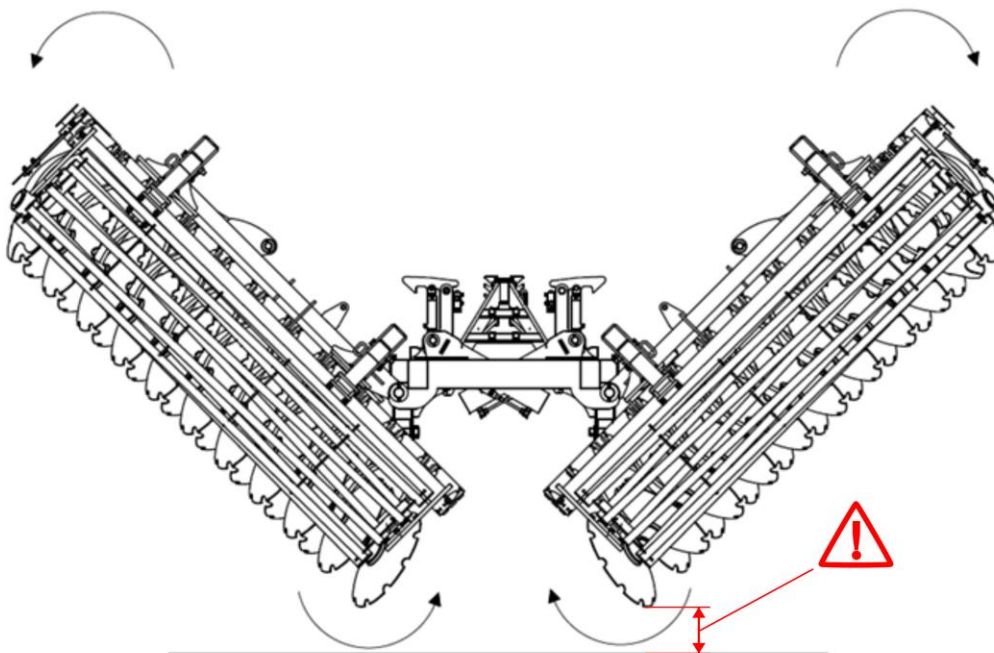

Figure 18 Machine opening sequence: opening the machine with special attention to the height of the arm ends from the ground.
- 5) Continue and do not interrupt the process of opening the wings until they are fully open (fig. 18),